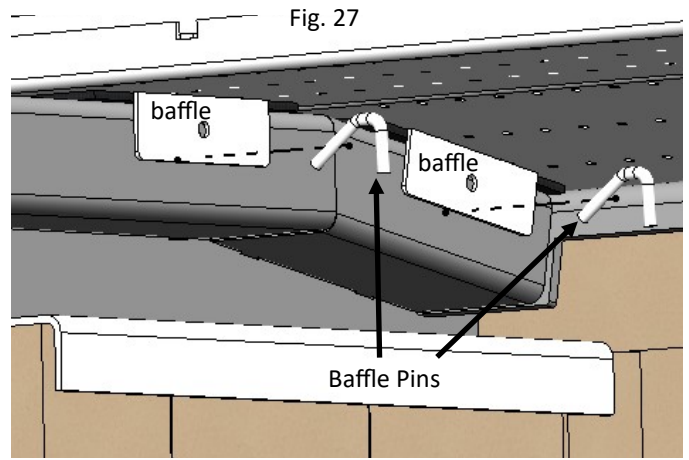

Fig. 27
2. Remove the Baffle Pins from inside firebox. There is a baffle pin on the right and left side for each baffle. Total of 4 Baffle Pins. See Fig. 27.
6. When baffles and gasket are in proper position install Baffle Pins. See Fig. 27.